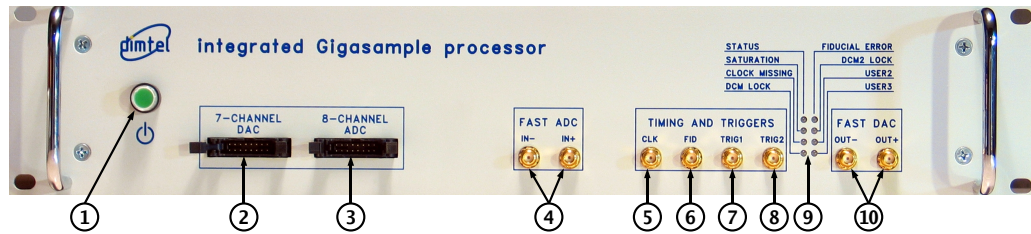

Figure 2: Front panel features
2. Connect **RF** clock at  $-3$  dBm nominal level (Fig. 2, item 5);
3. Connect single-ended high-speed **ADC** input signal to **Ain+** (Fig. 2, item 4). The **FS** swing of this signal should be 190 mV peak-to-peak;
4. Connect a  $50\ \Omega$  terminator to **Ain-** (Fig. 2, item 4);
5. Connect high-speed **DAC** output(s) (Fig. 2, item 10) to the appropriate back-end unit;
9. Push the power button (Fig 2, item 1) to turn on the system;
11. Push the power button (Fig 2, item 1) to turn the system off;
- Connect the 16-pin ribbon cable between the 7-channel **DAC** (Fig. 2, item 2) and the 8-channel **ADC** (Fig. 2, item 3);
- Connect 500 MHz clock to the **RF** clock input (Fig. 2, item 5);
- Terminate `Ain-` fast **ADC** input (Fig. 2, item 4);
- Terminate `Aout-` fast **DAC** output (Fig. 2, item 10);
- Make sure fiducial input is not driven (Fig. 2, item 6);